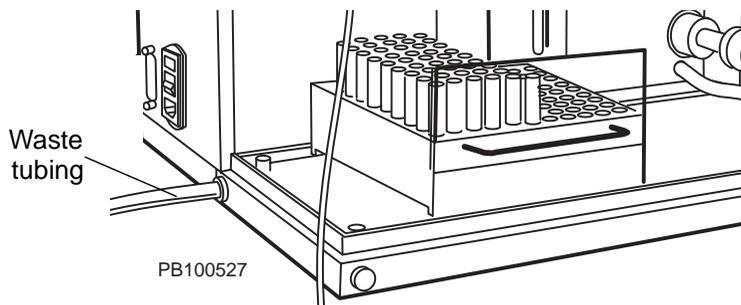

Figure 2-1 Routing Waste Tubing
3. Route the waste tubing through the opening on the bottom-left side of the device (Figure 2-1).